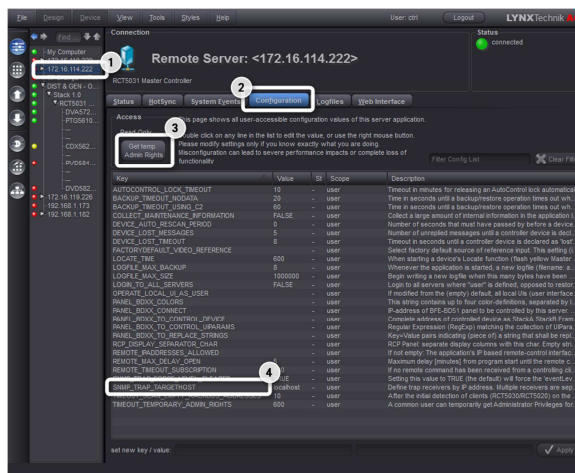

figure 2: set SNMP\_TRAP\_TARGETHOST
- (3) Set the configuration variable SNMP\_TRAP\_TARGETHOST of the LYNX Master-Controller to the IP-Address of the system that runs the snmptrapd-tool (next step). See figure 2.
- (4) On the target-system (as specified in the previous step), run the command-line tool snmptrapd (from the Net-SNMP tools) to receive and display incoming traps. *(Please note that this program opens UDP/IP port 162, which may require special administration privileges)*